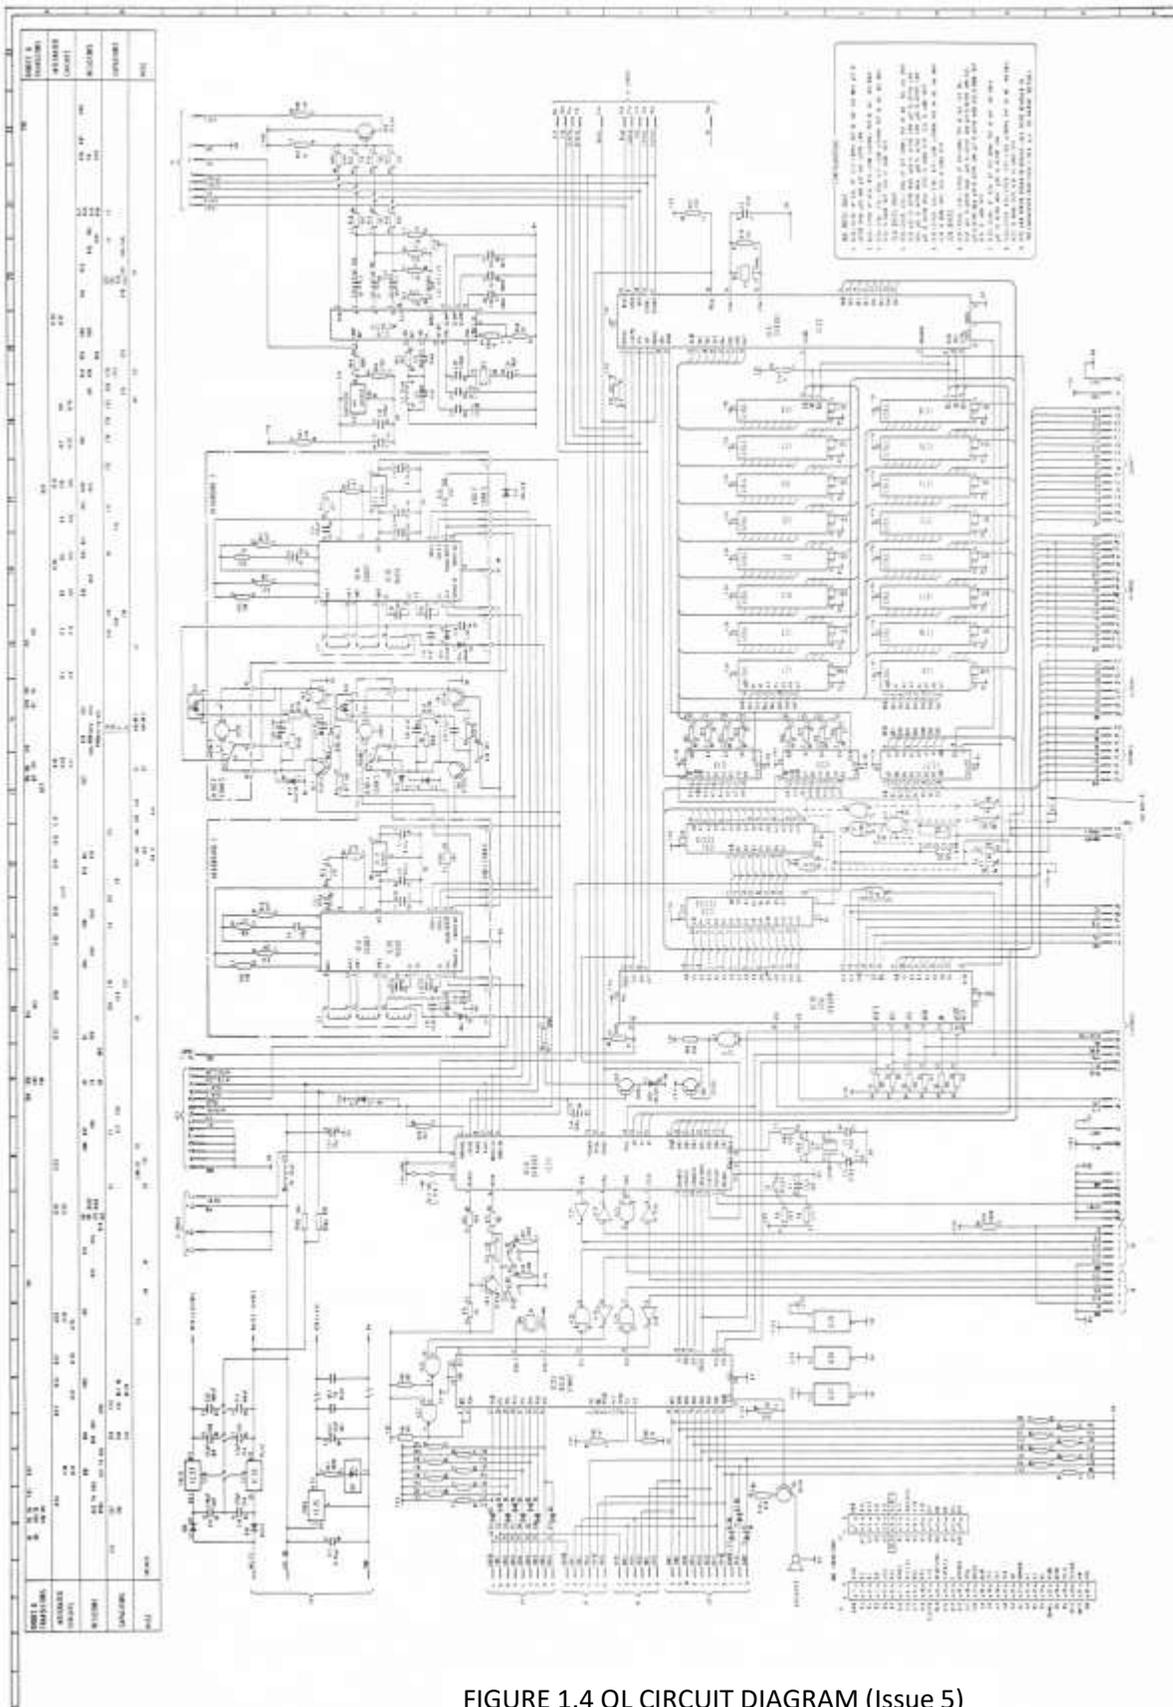

FIGURE 1.4 QL CIRCUIT DIAGRAM (Issue 5)
The following description should be read in conjunction with the circuit diagrams given in Figures 1.4 (pre-Issue 6) and 1.5 (post-Issue 6).
5.2.1 Read Only Memory. The CPU addresses the ROM/EPROM directly during memory read cycles using the address bus A15-A0. In the pre-Issue 6 version, depending on the ROM/EPROM fit, the enabling and selection pins on IC33 and IC34 are set by link selection on IC17. Links JU1 to JU6 via gate circuit IC17 are used to provide the correct signals; the link fit requirements for different ROM/EPROM versions is listed on the circuit diagram, Figure 1.4. In the post-Issue 6 version the ROMs are enabled directly by the signal ROMOEH from ZX8301.